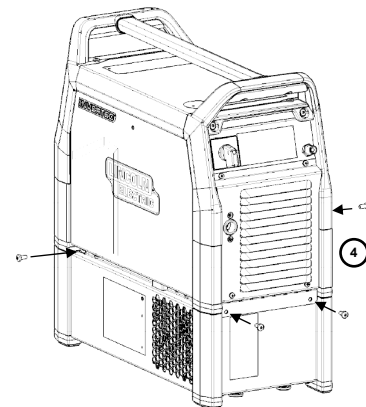

Figure 3
4. Finally, screw the adaptor metal sheets to the cooler (Figure 3).